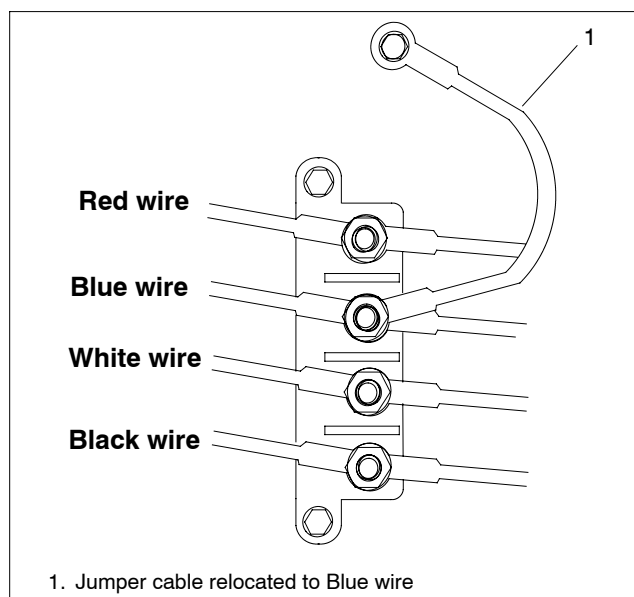

Figure 4 Modified Wiring
9. Install the flat washer, split washer, and then the nut using the 8mm socket. See Figure 4. Torque nuts to 5.8 Nm (51 in. lbs.).